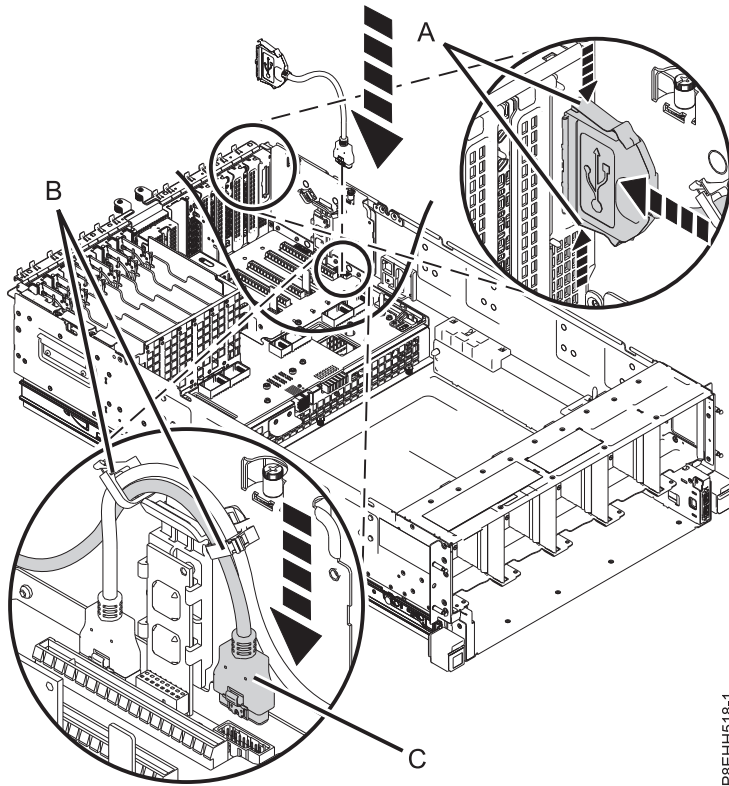

Figure 20. Replacing the rear USB cable
- a. Squeeze latches (**A**) and push the rear USB cable connector into the slot on the rear of the system until it latches into place as shown in Figure 20 on page 19.